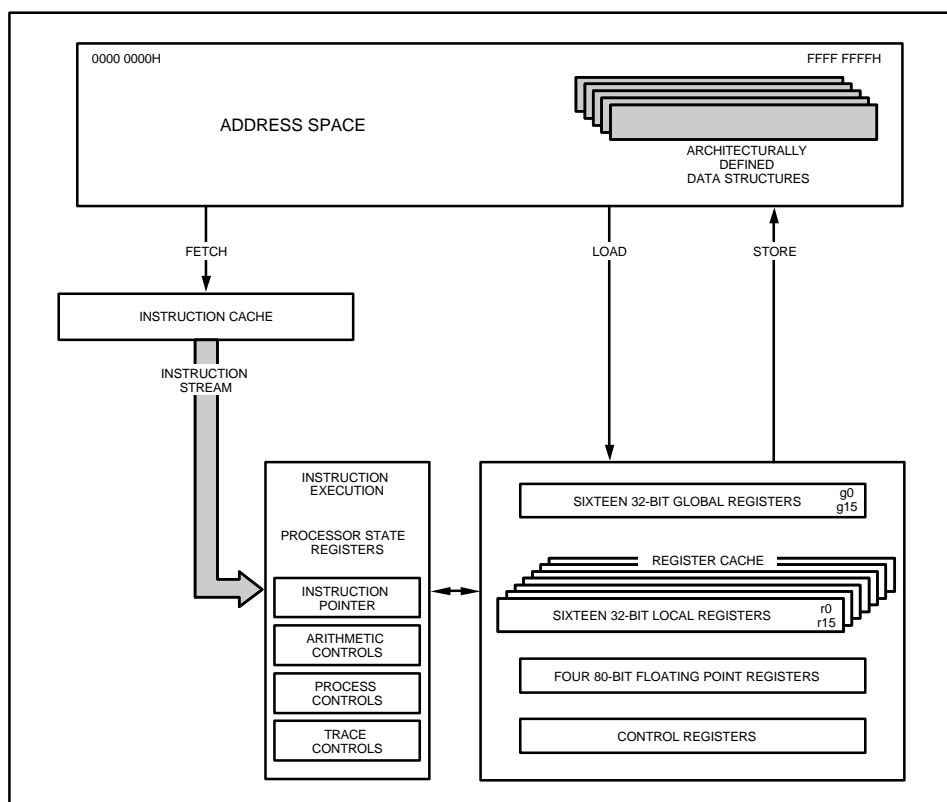

Figure 2. 80960KB Programming Environment
**1. Large Register Set.** Having a large number of registers reduces the number of times that a processor needs to access memory. Modern compilers can take advantage of this feature to optimize execution speed. For maximum flexibility, the 80960KB provides thirty-two 32-bit registers and four 80-bit floating point registers. (See Figure 2.)